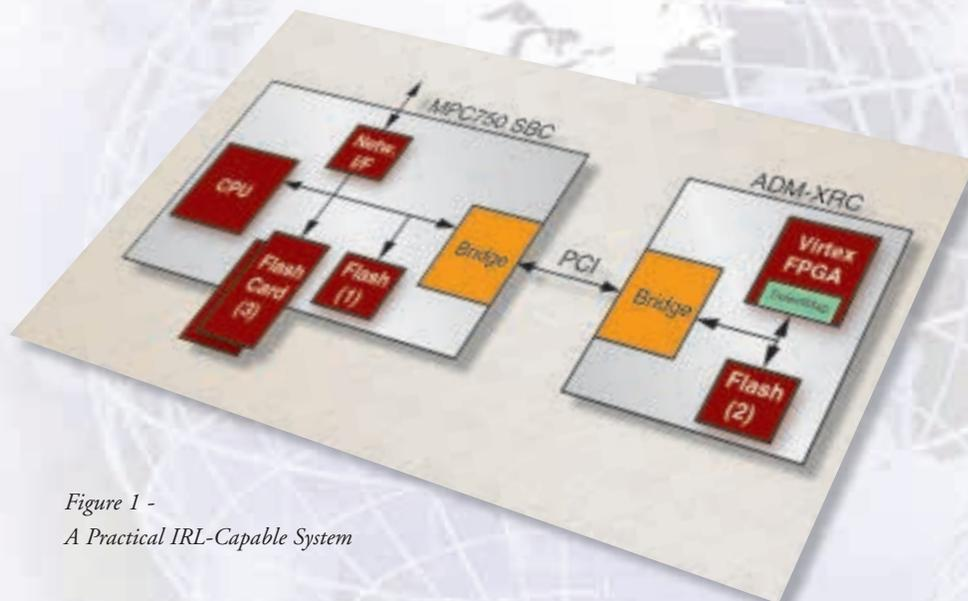

Figure 1 - A Practical IRL-Capable System
As shown in Figure 1, we use the on-board flash memory (1) of the MCP750 to hold default known good images for the VxWorks kernel and VxWorks application. These images are written at the factory and never overwritten during the lifetime of the system in the field. Also contained in this flash memory is a boot loader, described below.